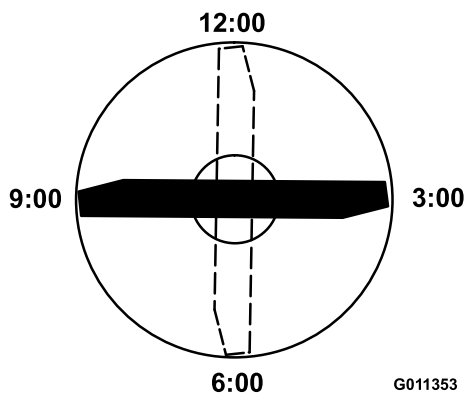

Figure 81
4. Position the cutting edge of the marked end of the blade at 12 o'clock (straight ahead in the direction of mowing) (Figure 81) and measure height from table to cutting edge of blade.
5. Rotate the marked end of the blade to the 3 and 9 o'clock positions (Figure 81) and measure the heights.